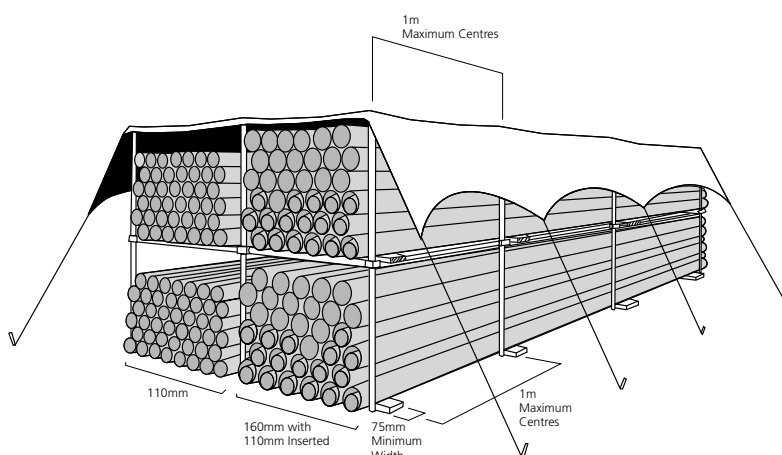

Fig.6
- Provide side support with 75mm wide battens at 1m centres (see Fig.6)